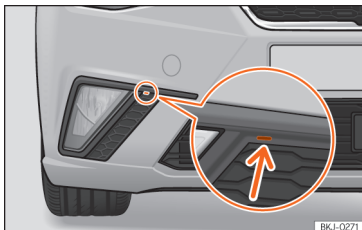

Fig. 56 Front fog light: remove the grille
- Lever the groove with a screwdriver » **Fig. 56** (arrow). Next, remove the clips located on the edge of the grill, levering them gently.